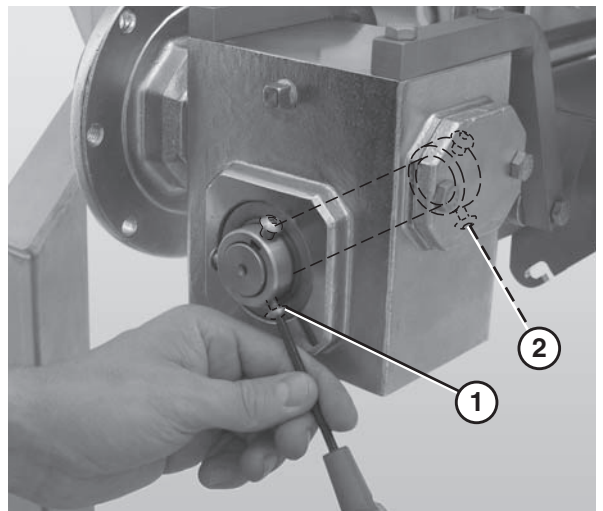

Figure 63
9. Use a 4 mm hex wrench to loosen the outside button head screws (**Figure 63, item 1**) and the inside button head screws (**Figure 63, item 2**) that connect the gearmotor to the drive spindle.